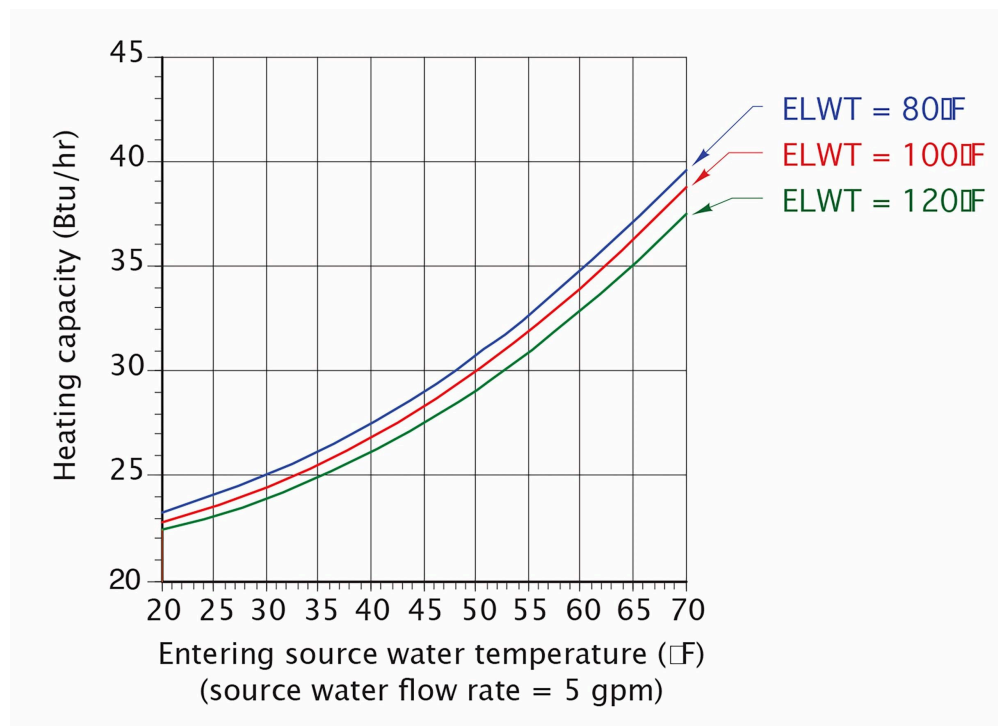

Figure 1 Heating capacity for a water-to-water heat pump
- Figure 1 The refrigeration cycle © Caleffi Hydronic Solutions. Used with permission.
The expression of the heating capacity of a gas-fired furnace is centred around the quantity and type of fuel being burned (eg. 75,000 btuh natural gas or propane) and the construction of the furnace (mid-or-high efficiency) and is therefore fairly straightforward. In other words, the conditions that determine its heat output are fairly finite and will not vary depending on conditions such as the temperature of the return. However, the conditions that determine the heating capacity of a water-to-water heat pump can vary greatly. Temperature of the source media, temperature of the load media, as well as the flow rates of both the source and load media can change, and they all have an effect on the heat pump’s heating capacity. Formulas and graphs must be consulted that take into account the variations in these conditions. An example of a chart showing the heating capacity in btuh of a water-to-water heat pump is shown in Figure 1 below.